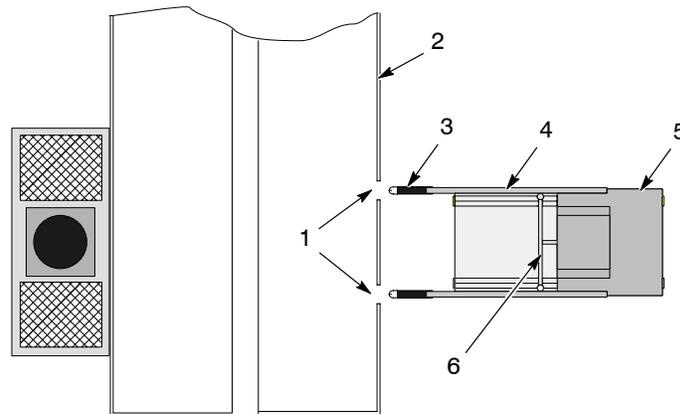

Figure 3 Oscillator Installation (Top View)
1. See Figure 3. Set the oscillator and base (5) in place outside the booth gun slots (1). Do not secure it to the floor at this time.